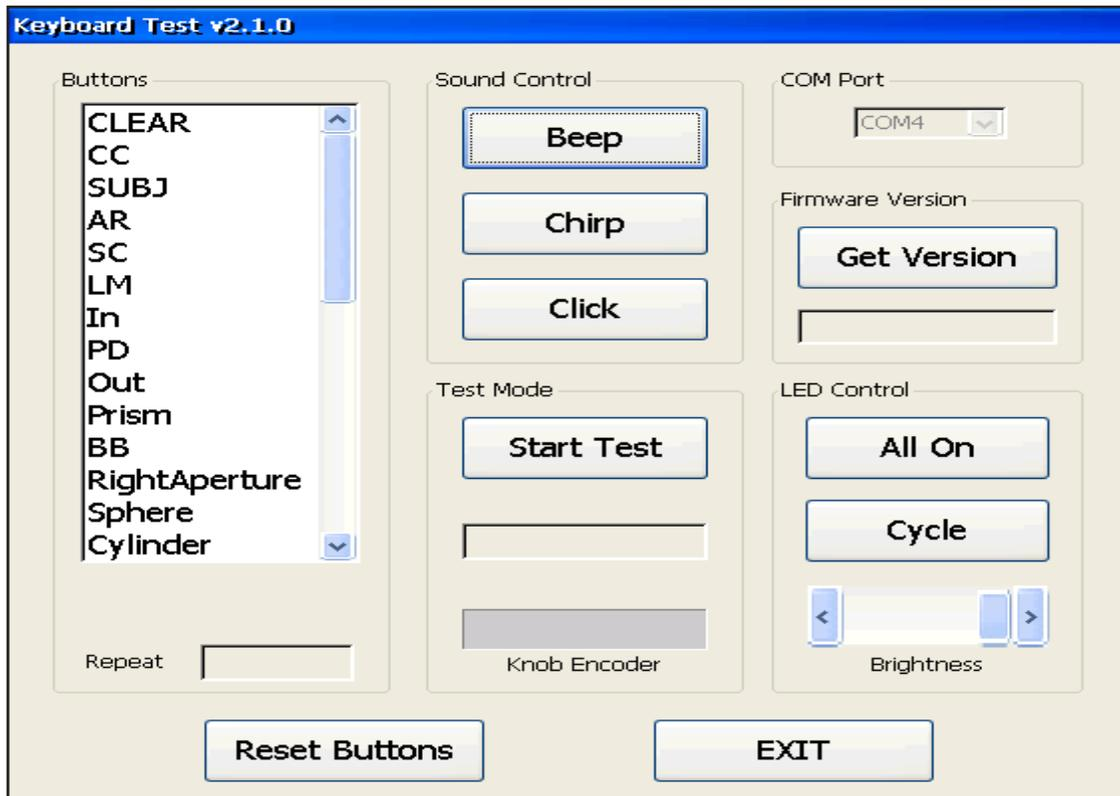

Figure IS-35, Keyboard Test Screen
1. Touch **KEYBOARD TEST** to begin the test, which ensures that all of the Keypad buttons function properly. (Please refer to Figure IS-35.)